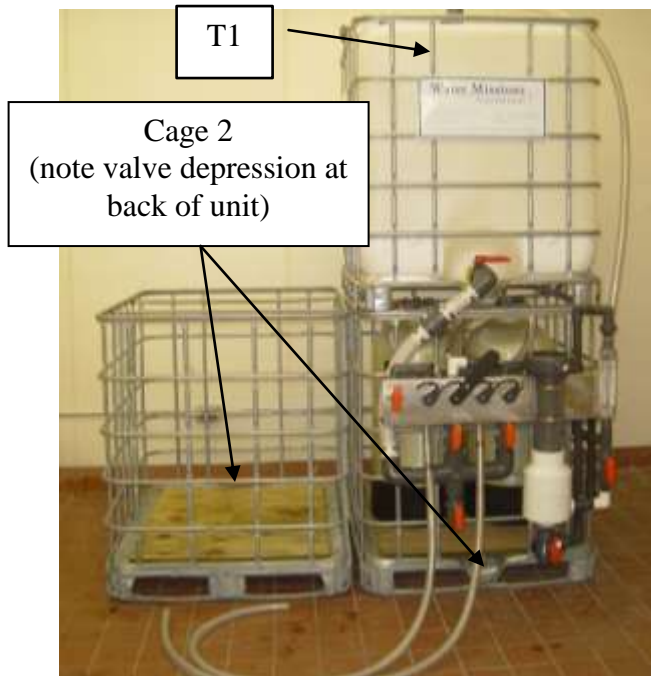

Figure 29: Cage 2 Positioning
2. Position the empty Cage 2 and the Secondary Potable Water Storage Tank T2 adjacent to Cage 1, as shown in Figures 29 and 30. (Note that the valve depression on Cage 2 should be facing the back side of the assembled water system.)